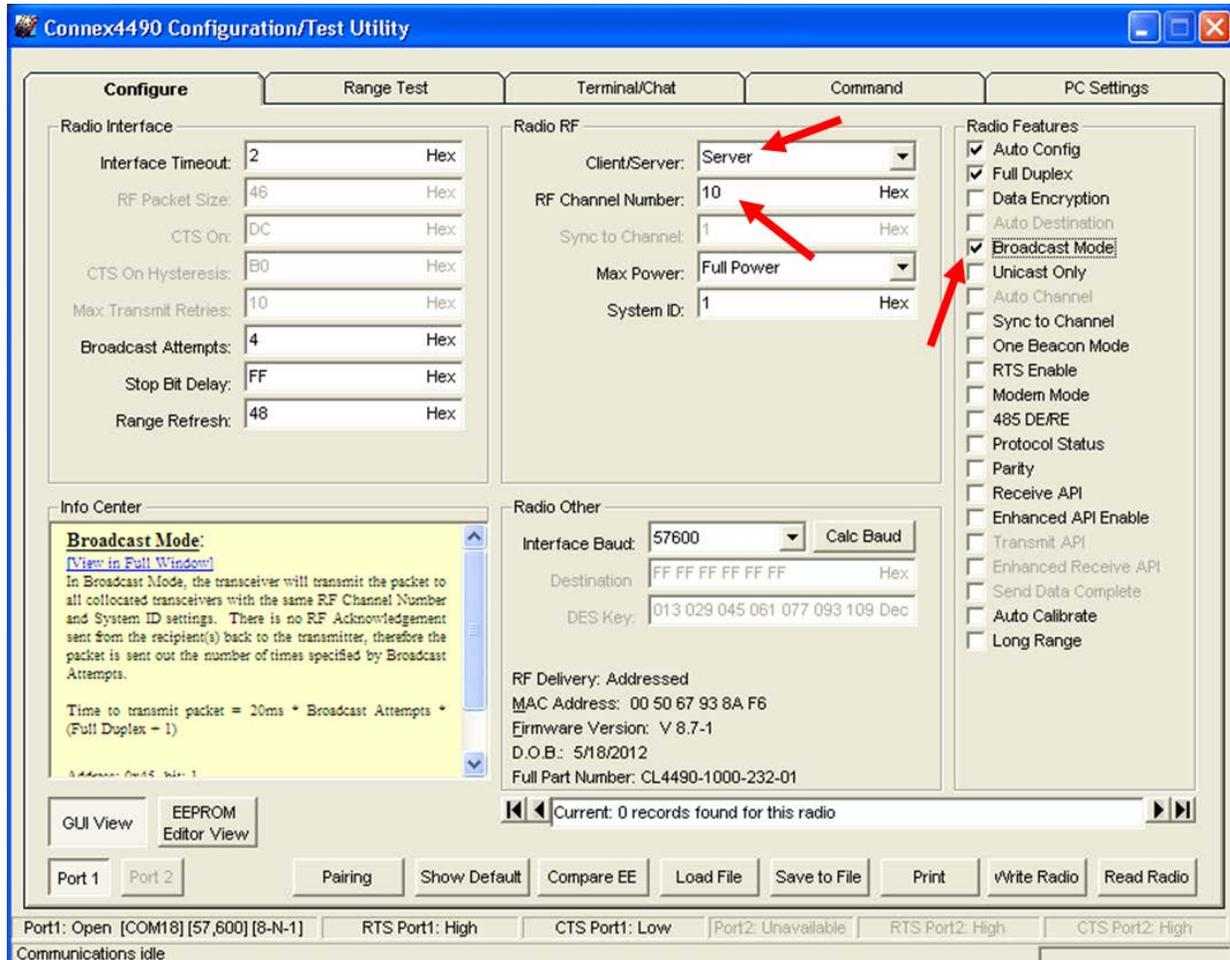

Figure 5: Hop Master settings
- To configure the Hop Master, select **Server** and **Broadcast Mode**. Make note of the RF Channel Number (Figure 5). Once the appropriate changes have been made, click **Write Radio**. A Write Successful prompt appears after a successful write. Note that the values are shown using hexadecimal representation; you may change this to decimal notation by double-clicking on the word "Hex" (it changes to "Dec").